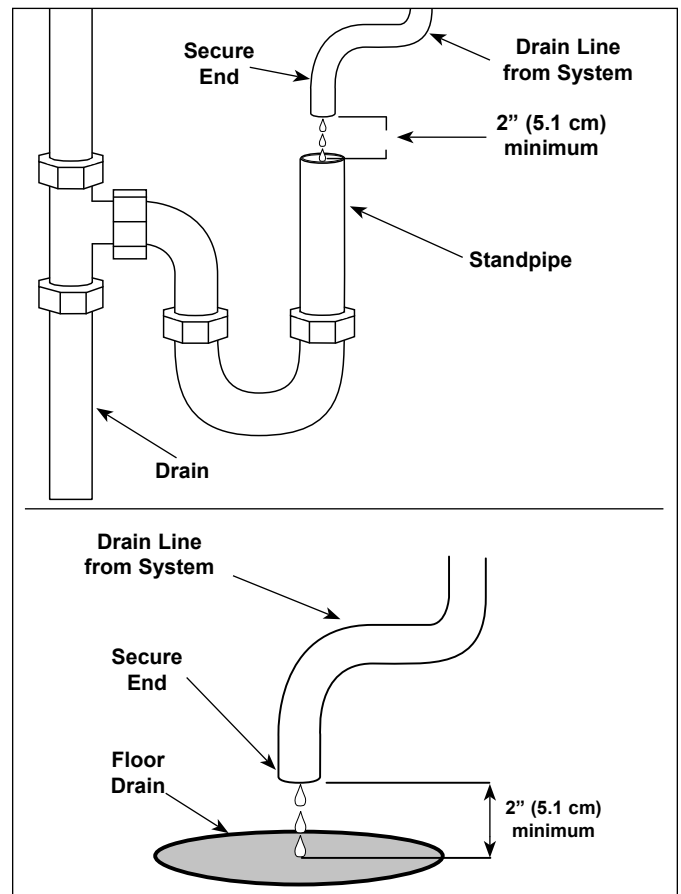

Figure 4. Drain Line Plumbing
- The drain line plumbing must be position and secured at least 2 inches above the drain (Figure 4). This air gap protects the system from contamination in the event of a backed-up drain.